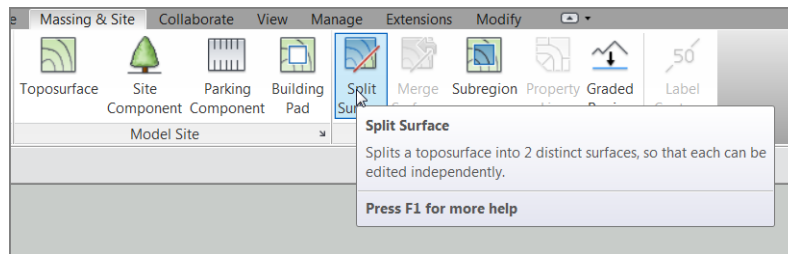

FIGURE 18.7: The Split Surface button
2. On the Massing & Site tab, click the Split Surface button, as shown in Figure 18.7.